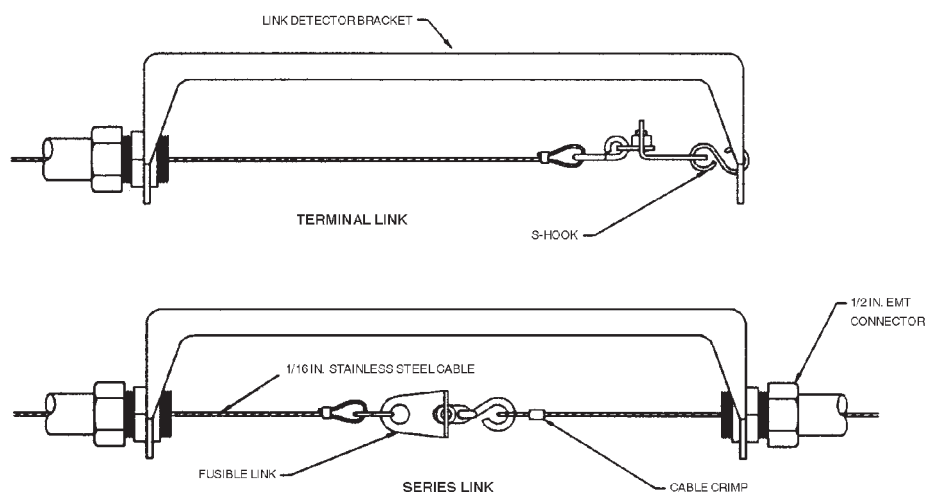

Figure 2-10. Model FLK-1 Fusible Link
- ▶ The Model FLK-1 fusible link kit includes a 10 in. steel bracket, two (2) 1/2 in. EMT connectors, two (2) cable crimps, and two (2) “S” hooks. Fusible links must be ordered separately. **See Figure 2-10.**
- ▶ The Model FLK-1A fusible link kit includes an 8 in. steel bracket, two (2) 1/2 in. EMT connectors, two (2) cable crimps, and two (2) “S” hooks. Fusible links must be ordered separately.